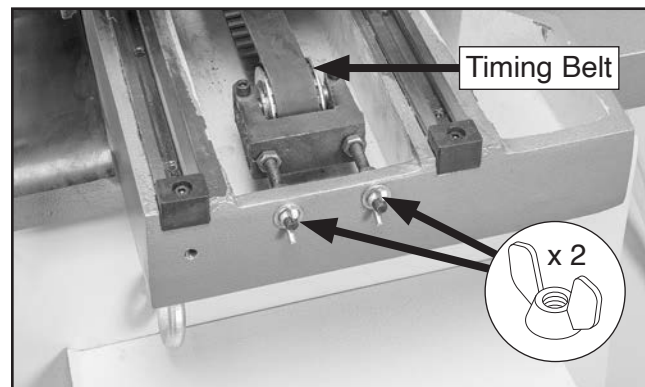

Figure 28. Timing belt and wing nuts.
3. Loosen wing nuts on right side of table to create slack in timing belt (see **Figure 28**).